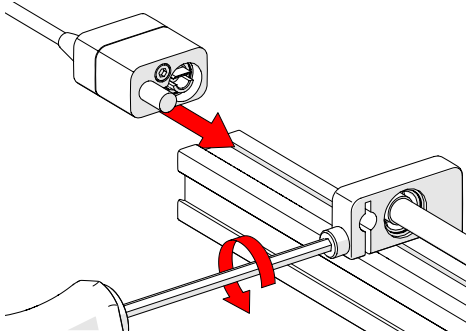

Fig. 64 - Loosen and slide post in place
1. To install the index encoder, loosen the clamp screw on the encoder with the supplied 3 mm hex driver (Fig. 64).